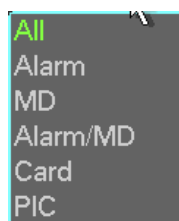

Figure 4-39
- Picture backup: Please set the corresponding time, channel and then select the type as PIC from the dropdown list. See Figure 4-39. Please click the Add button and then select the pictures. Click the Start button; you can copy the specified pictures to the selected portable devices.
In Figure 4-39, input mode value in the No. blank, and click pattern button.